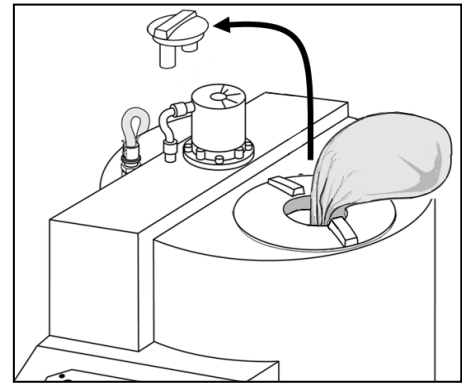

Figure 7
9. Remove the GranuFlo I Dissolution Unit Small Access Lid and slowly add granules as seen in Figure 7. This minimizes the amount of particulates discharged into air while adding granules to the tank. If clumping in dry acid product is present, then the larger access lid can be used to load the Tank, but ensure that the bags are slowly poured into the large access port to avoid splashing of water onto the outside of the GranuFlo I Dissolution Unit (See Appendix A for further complete dry acid mixing information, page 45).